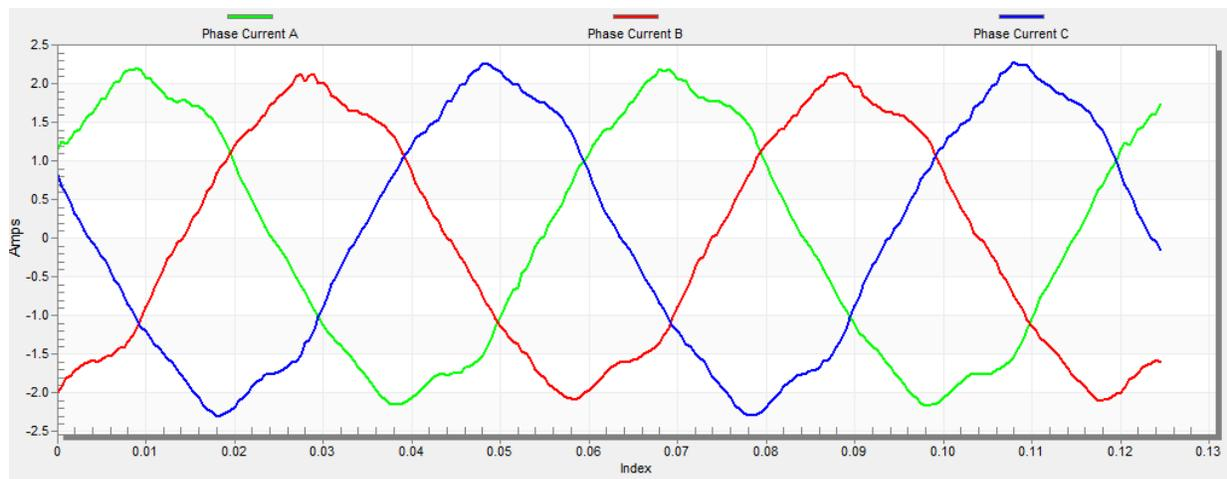

Figure 38. Phase currents
- The optimal ratio for the V/Hz profile can be found by changing the V/Hz factor directly or using the “UP/DOWN” buttons. The shape of the motor currents should be close to a sinusoidal shape (Figure 38).